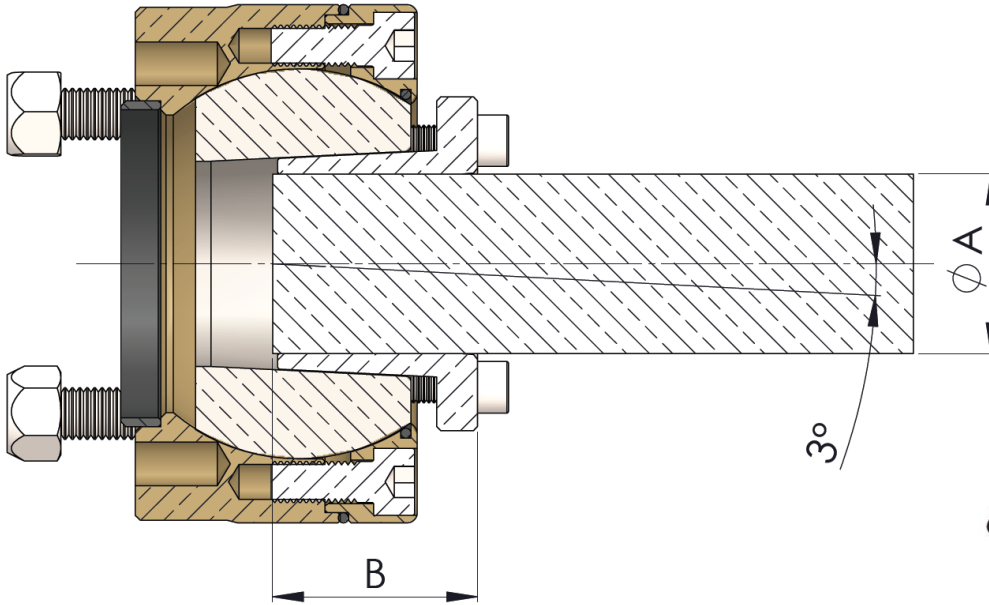

Fig 1. SigmaDrive angle drawing
- Insert the M10 high tensile studs (10) into the corresponding tapped holes to match the gearbox output flange, ensuring the longer threaded side of the stud is threaded into the body of the SigmaDrive. Lock the studs using the two thin M10 lock nuts and the loctite **638** supplied. Fit the M10 Nyloc nuts to the M10 high tensile studs (10) and tighten firmly to a torque of **61Nm**.
- Please apply a light oil film on the surface of the taper lock making sure that the surface between the taper and central sphere (3) is well lubricated. Use WD-40 or hydraulic oil, this will aid removal. Please do not use oil with molybdenum disulfide, high pressure additives or graphite grease on either the shaft or taper lock. These substances notably reduce the friction coefficient for the clamp unit.**
- Carefully slide the clamping unit (7) onto the propeller shaft to the minimum depth indicated in table 2, insert the clamping units into the central sphere and tighten the M8 taper locking bolts (7) gently using an allen key in a crossed sequence (see fig 1).